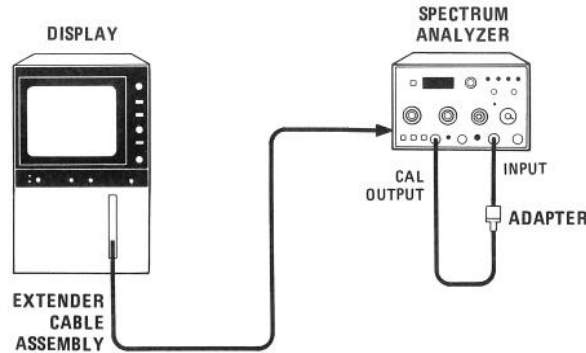

FIGURE 5-16. 1-dB OFFSET ADJUSTMENT TEST SETUP
2. Connect equipment as shown in Figure 5-16.